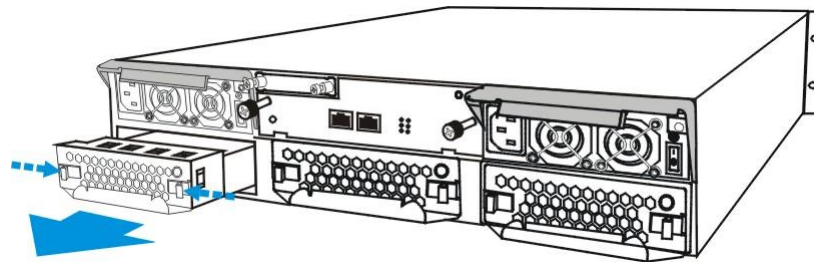

Fig. 2.1 Removing the Cooling Module
1. To remove the cooling module, squeeze both side latches toward the center of the cooling module. Withdraw the cooling module from the subsystem by gently pulling on the silver handle at the bottom of the module. (See Figure 2.1)